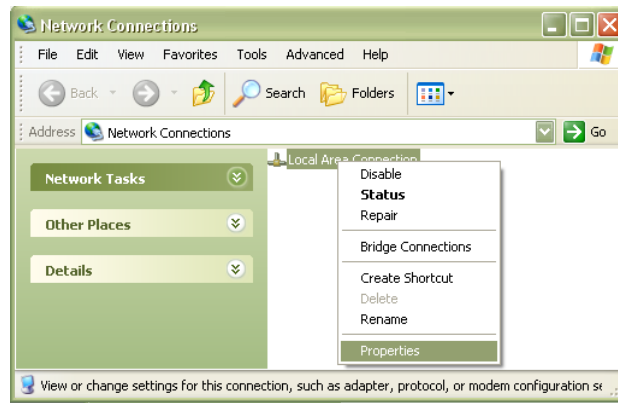

FIGURE 2-10: NETWORK CONNECTION PROPERTIES
- 3) Right click on the connection that will be used to communicate with the EX1629, then select **Properties** (see Figure 2-10). Some PCs have multiple network connections, so it is important to make certain that the connection used to communicate with the EX1629 is selected.